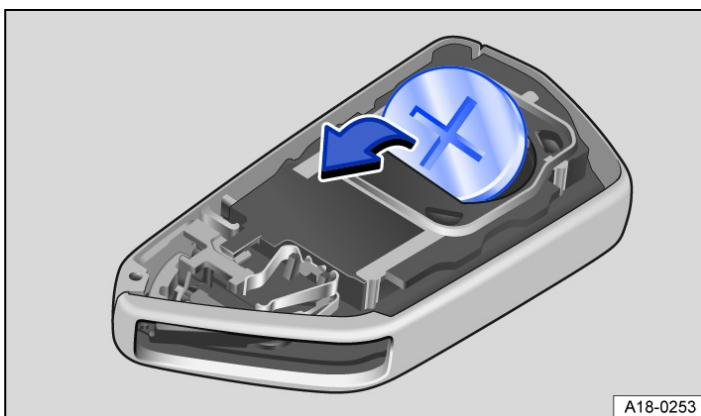

Fig. 2 Vehicle key: replacing the button cell.
- Lever the button cell out of the battery compartment → Fig. 2.
- Press the new button cell into the battery compartment → ①.